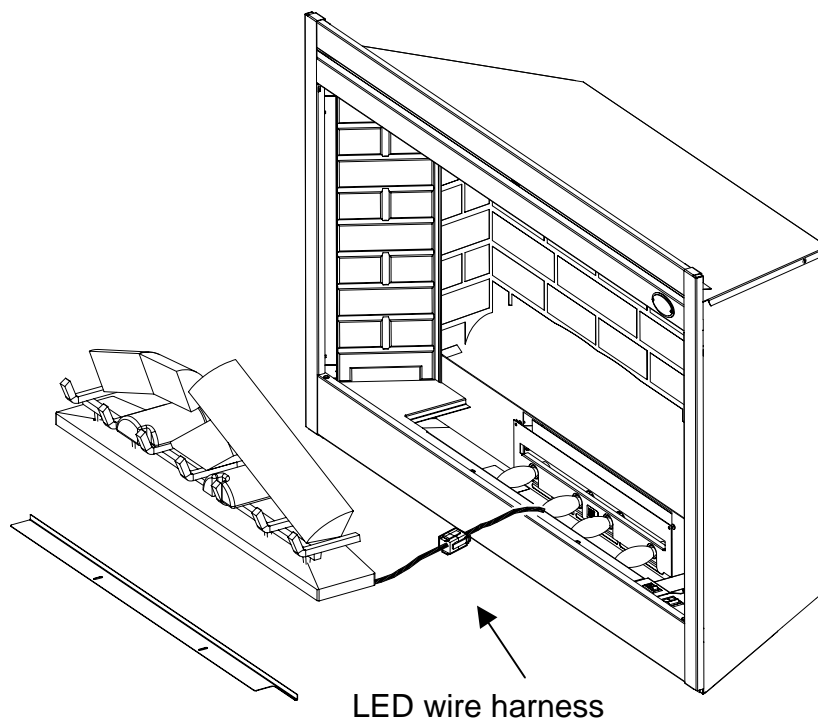

FIGURE 5
5. Disconnect the logset LED wire harness from unit. (FIGURE 5)